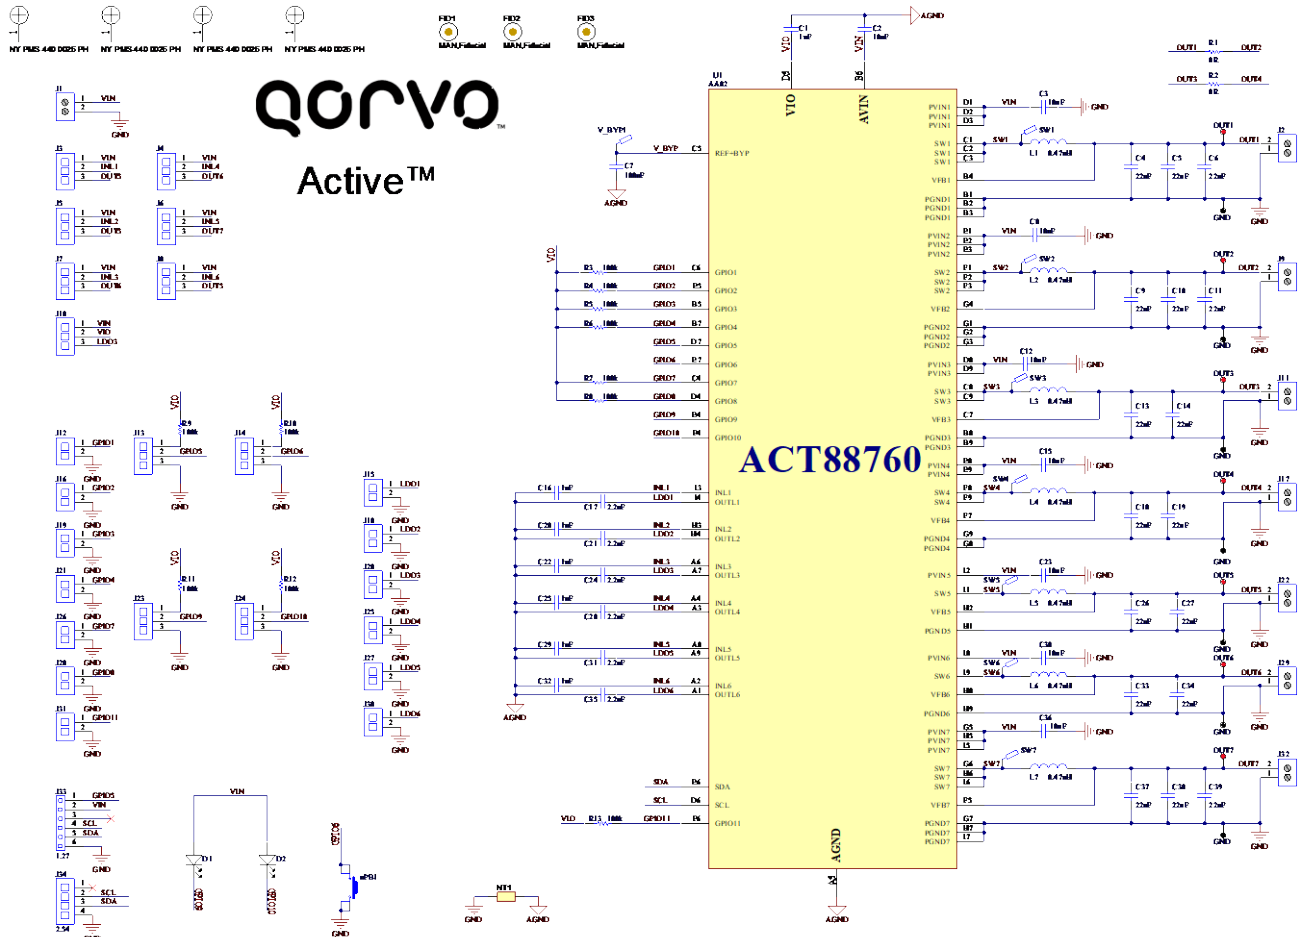

Figure 4 – ACT88760EVK1-102 Schematic
3. Connect the USB-TO-I2C dongle to the EVK J34 connector. Refer to Figure 4 to ensure the correct polarity of the connection. As a guide, use the “Qorvo” logo or (“Active-Semi”) logo on the top of the dongle so the black wire is connected to the Dongle GND pin.